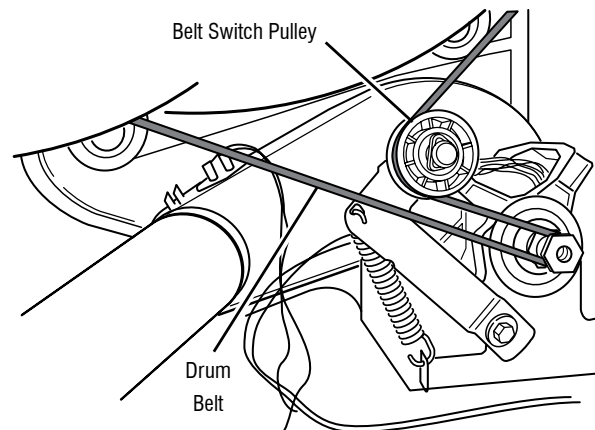

Figure 8 - Slowly remove drum belt
- Check the drive motor. Slowly remove the drum belt from the spring-loaded pulley, gently letting the pulley down. See figure 8.